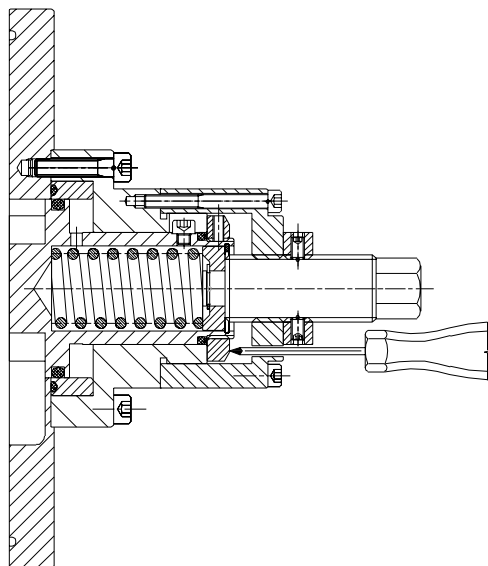

Fig.3.1
- 2 - Tighten the adjusting screw (59) by gradually putting the spring under pressure, checking that the pressure at the outlet port of the pump does not exceed the maximum allowed pressure.
- 3 - By operating the adjusting screw and checking with a probe (see fig.3.1), find the critical opening point of the valve at the desired pressure.
- 5 - Position the adjustment retainer (62) and lock it with the special screw (65).